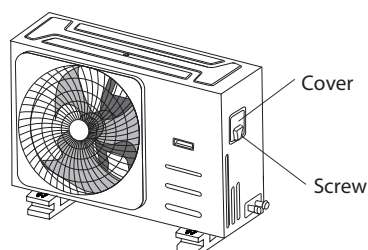

Fig. 7.1
- Remove the electric cover of the outdoor unit. If there is no cover on the outdoor unit, take off the bolts from the maintenance board and remove the protection board. (See Fig. 7.1 and 7.2).